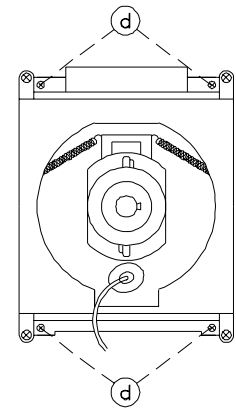

Figure 5-6
1. Carefully position the replacement CRT and fasten in place using 4 screws "d". [Figure 5-6]